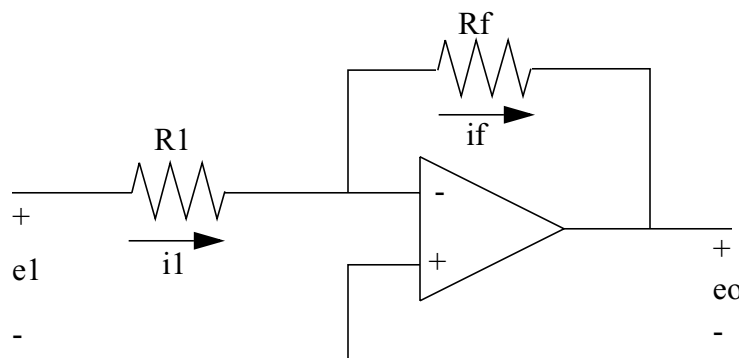

Figure 2. Inverting Amplifier
**THE INVERTING AMPLIFIER:** The circuit of Figure 2 is the most widely used circuit involving an op-amp.